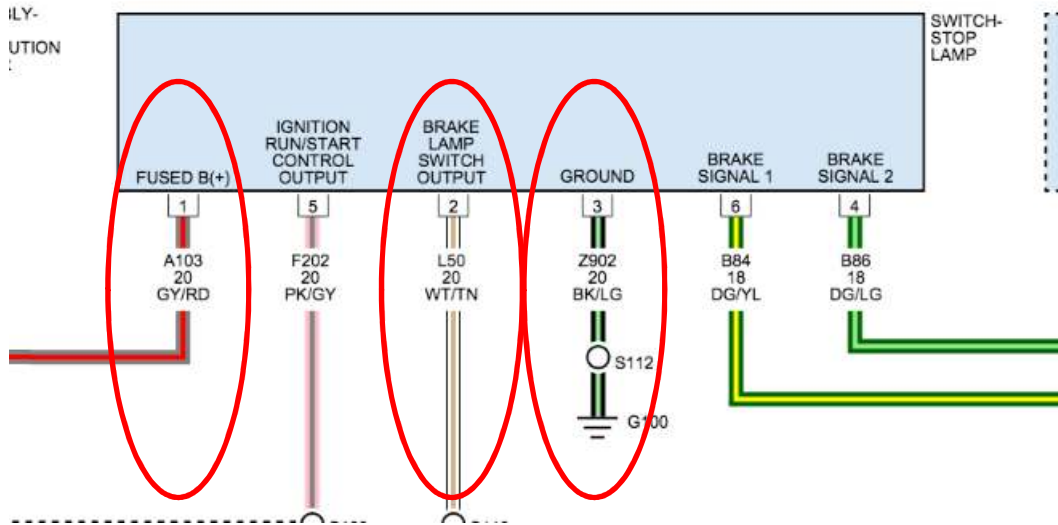

Figure 2 (Brake pedal position sensor)
1. Attach supplied wiretap to the **BLACK/LIGHT GREEN** wire on the brake sensor (**Figure 2**).
3. Attach supplied wiretap to the **GREY/RED** wire on the brake sensor (**Figure 2**).
5. Attach supplied wiretap to the **WHITE/TAN** wire on the brake pedal sensor (**Figure 2**).